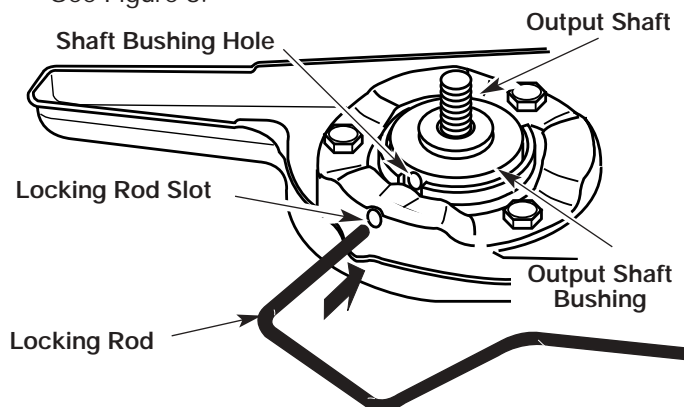
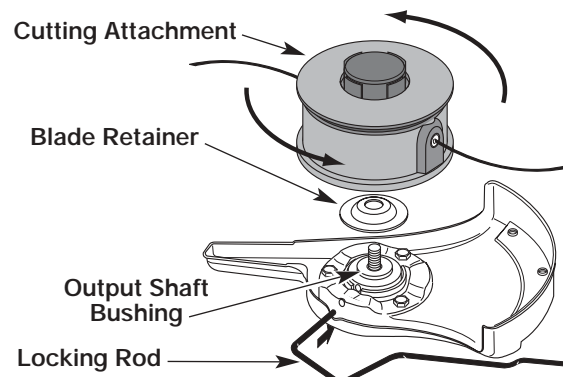

Figure 8
Figure 15
1. Align the shaft bushing hole with the locking rod slot and insert the locking rod into the shaft bushing hole. See Figure 8.
6. Align the shaft bushing hole with the locking rod slot and insert the locking rod into the bushing hole. See Figure 8.
1. Align the shaft bushing hole with the locking rod slot and insert the locking rod into the bushing hole. See Figure 8.
5. Align the shaft bushing hole with the locking rod slot and insert the locking rod into the shaft bushing hole. See Figure 8. Place the blade retainer on the output shaft with the flat surface against the output shaft bushing. See Figure 15. Screw the cutting attachment counterclockwise onto the output shaft. Tighten securely.